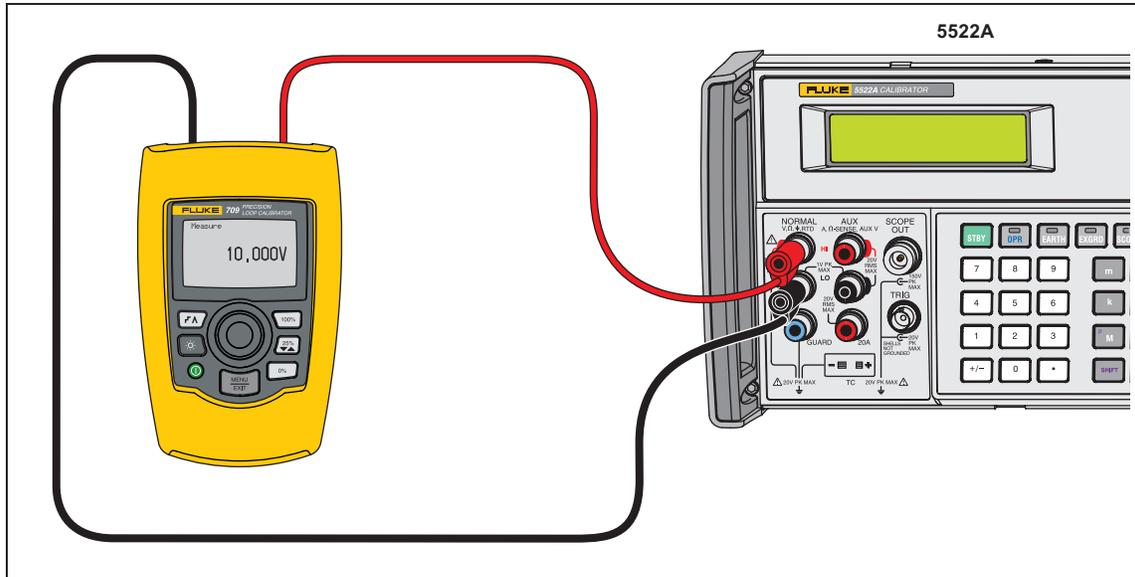

Figure 4. DC Voltage Measurement Verification Connections
3. Connect the test leads from the output NORMAL terminals of the Calibrator to the input terminals on the Product (black to COM and red to [+]). See Figure 4.